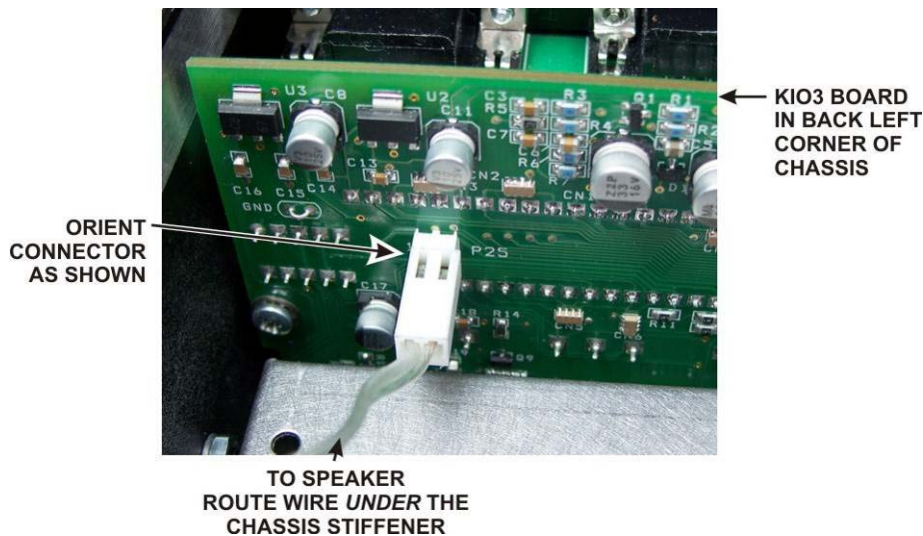

Figure 52. Connecting Speaker Cable.
- Hold the top cover above the K3, route the speaker wire under the stiffener bar and plug it into P25 on the KIO3 board at the left rear of the K3 as shown in Figure 52. If you have the K144XV 2-meter module installed, there is an indentation in the top of the module where you can pass the speaker wire connector under the chassis stiffener.